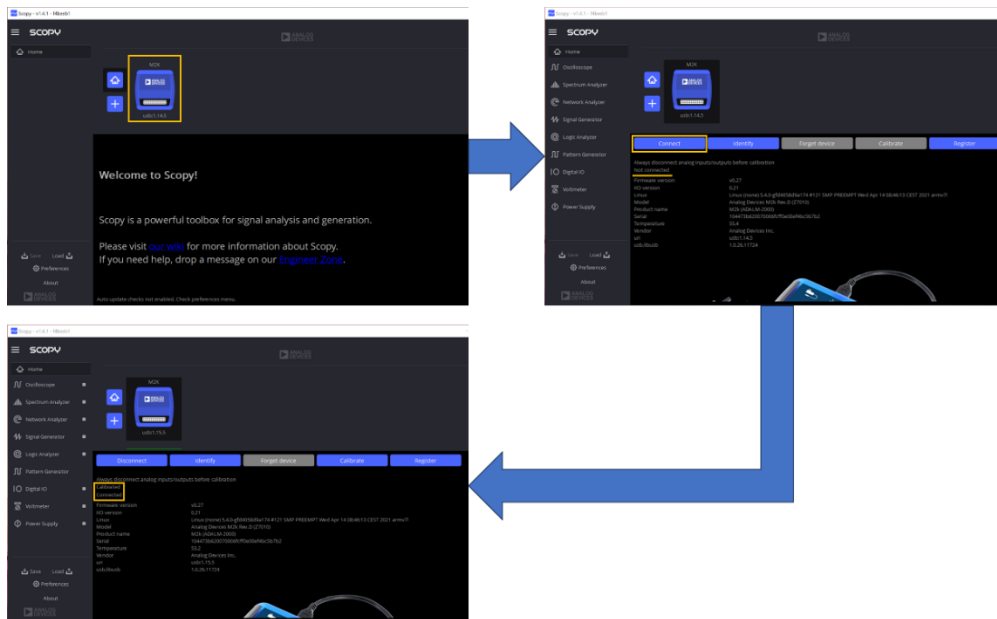

Figure 7. Detecting the ADALM2000 in Scopy
4. On the Scopy landing page, select the detected ADALM2000 device (also known as M2K), then click **Connect**. The program runs a calibration routine and notifies via text in the status console that the device is ready to operate. See Figure 7.